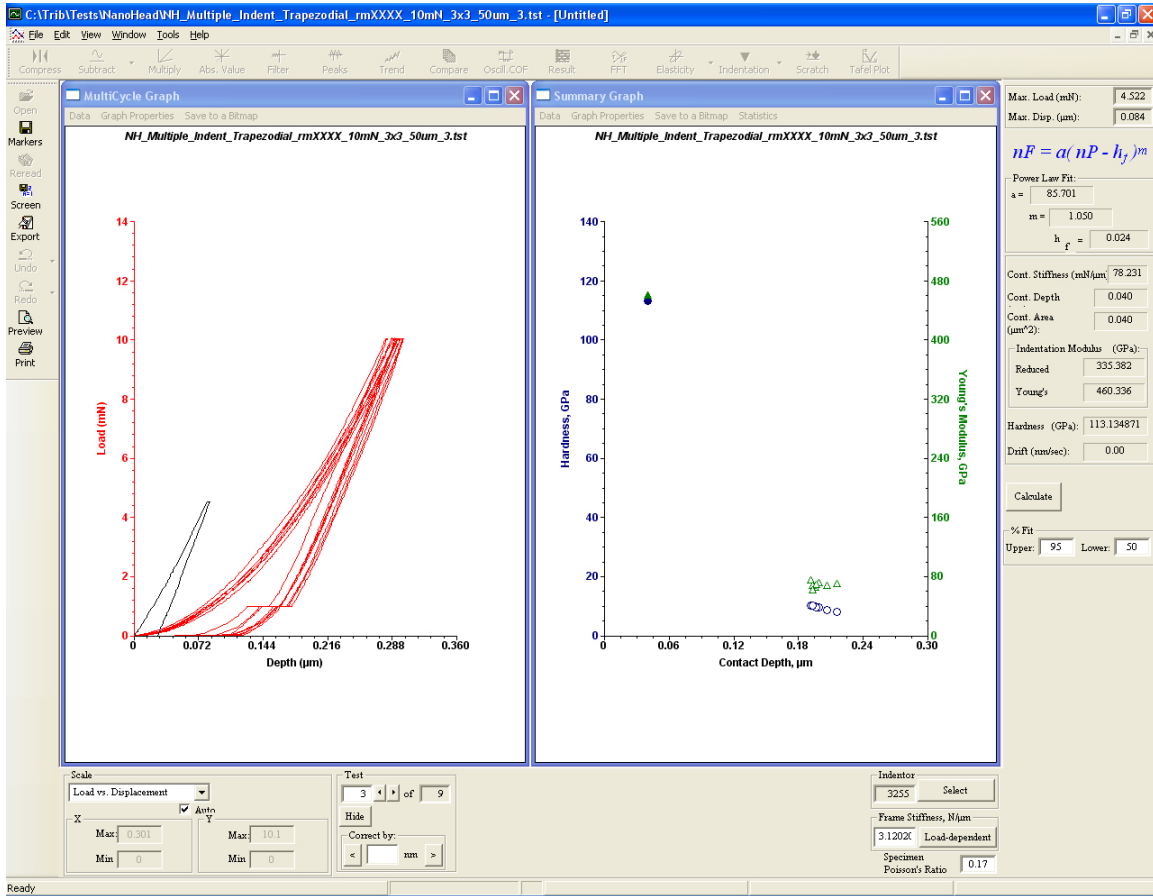
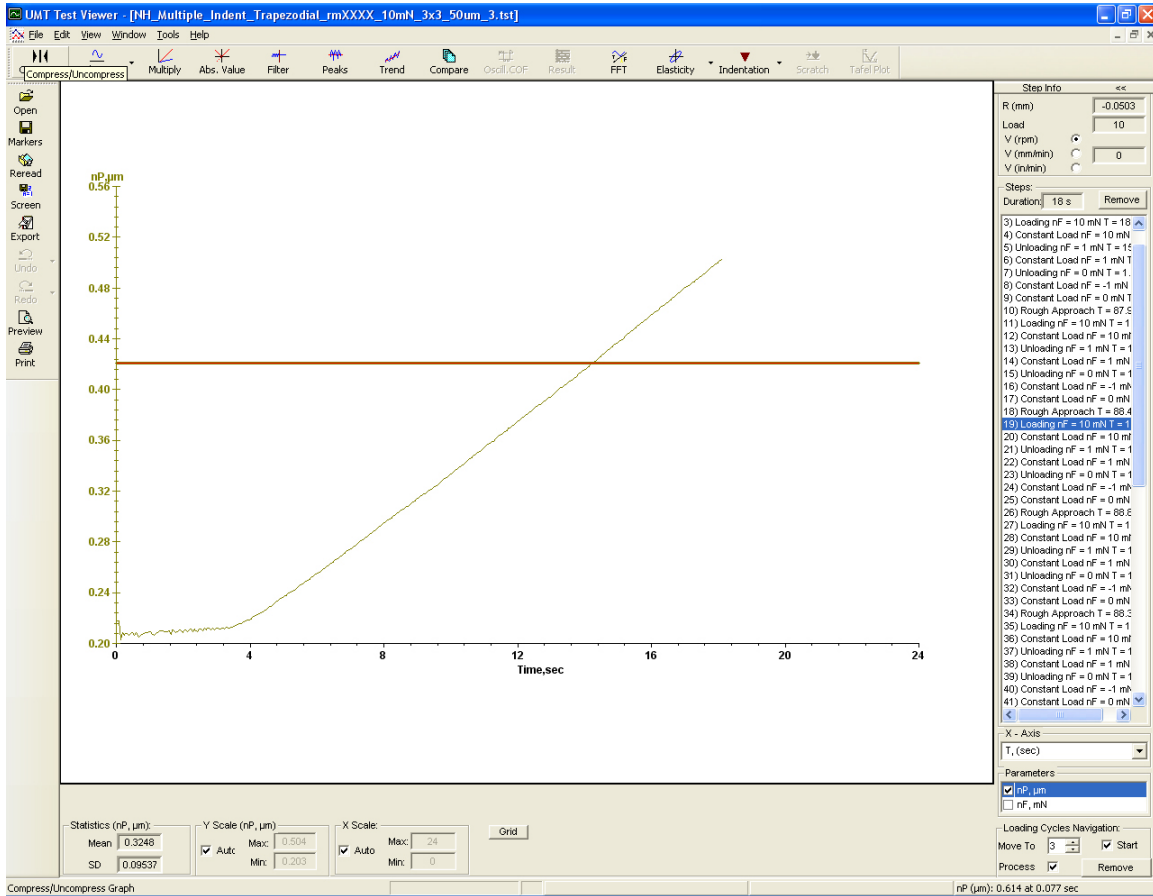

Figure 28: Improper contact point.
Figure 30: Improper touch point.
- 6) Figure 28 shows an indent that is shifted too far to the left and has to be corrected to be more in line with the other data points.
8) Figure 30 shows an improperly set touch point (the same point as shown in Figure 28).